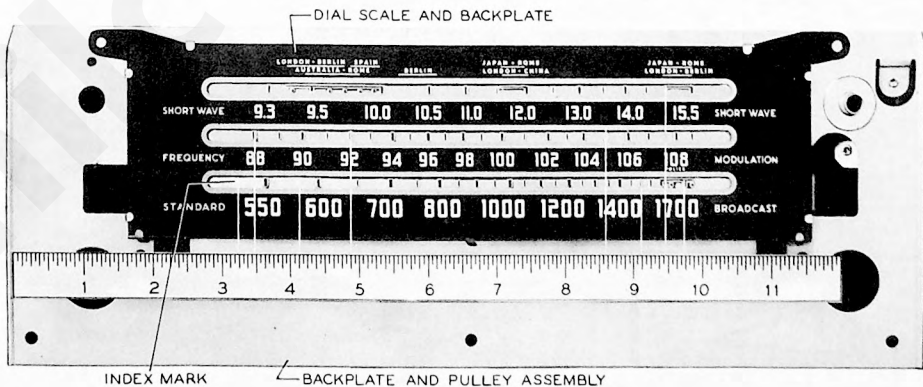

FIGURE 1. DIAL BACKPLATE CALIBRATION MEASUREMENTS.
1. Hold a rule against the dial backplate as shown in figure 1.